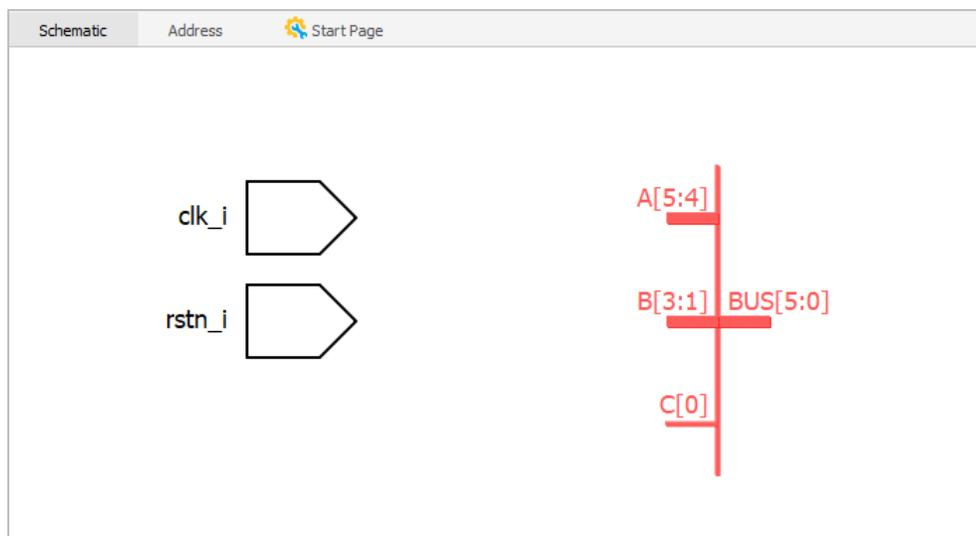

Figure 2.49. Schematic View Shows a Concat Module
3. Click **OK**. The schematic block for the concat module in red appears in the Schematic view (Figure 2.49). you can drag and connect them with the rest of design.